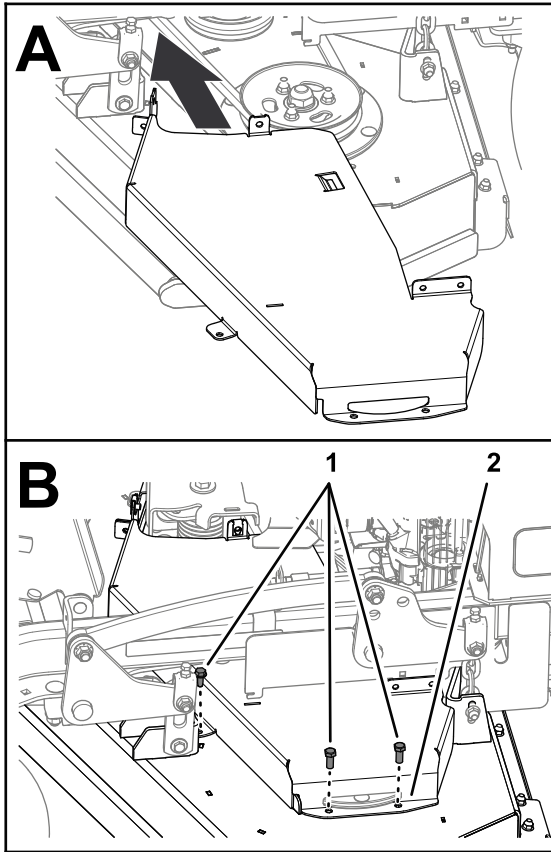

Figure 42
1. Assemble the left belt cover to the deck (Figure 42) with the 3 bolts that you removed in Removing the Left Belt Cover (page 26).